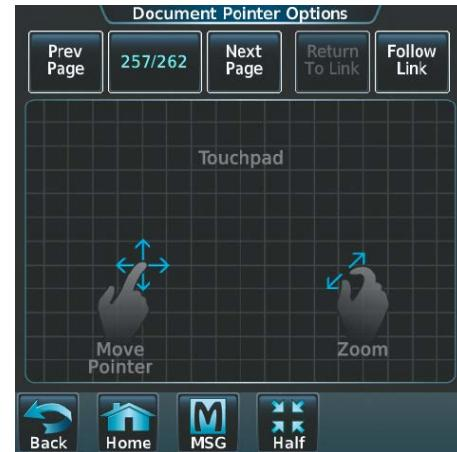

Figure 8-108 Follow Link
- 3) With the link highlighted, touch the **Follow Link** Button shown in Figure 8-108. The selected link destination is now displayed in the selected pane as indicated in Figure 8-109.